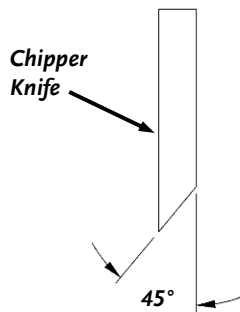

Figure 39
- It is extremely important to consistently maintain the 45-degree angle for proper performance (**Figure 39**).